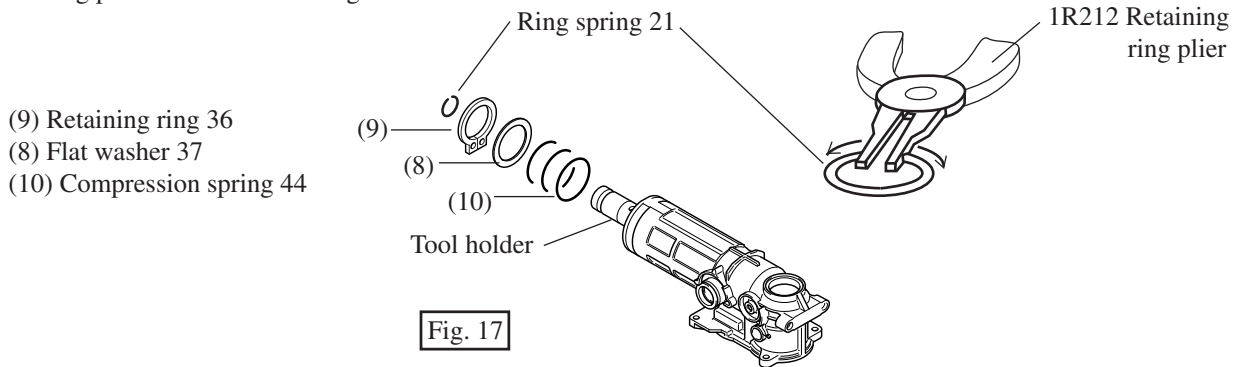

Fig. 17
(2) Take off ring spring 21 from tool holder, with No. 1R212 "retaining ring plier". And then, disassemble the following parts as illustrated in Fig. 17.